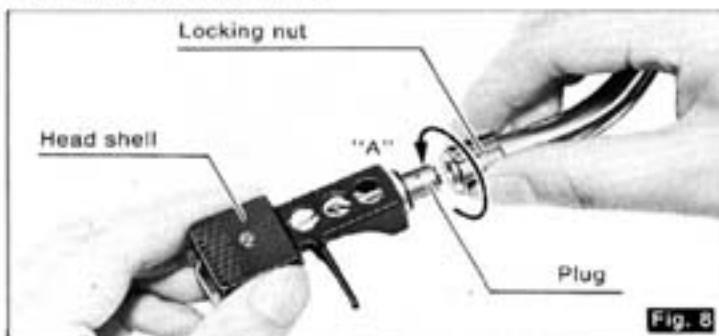

Fig. 8
**⑦ Installation of the head shell. (See Fig. 8).**